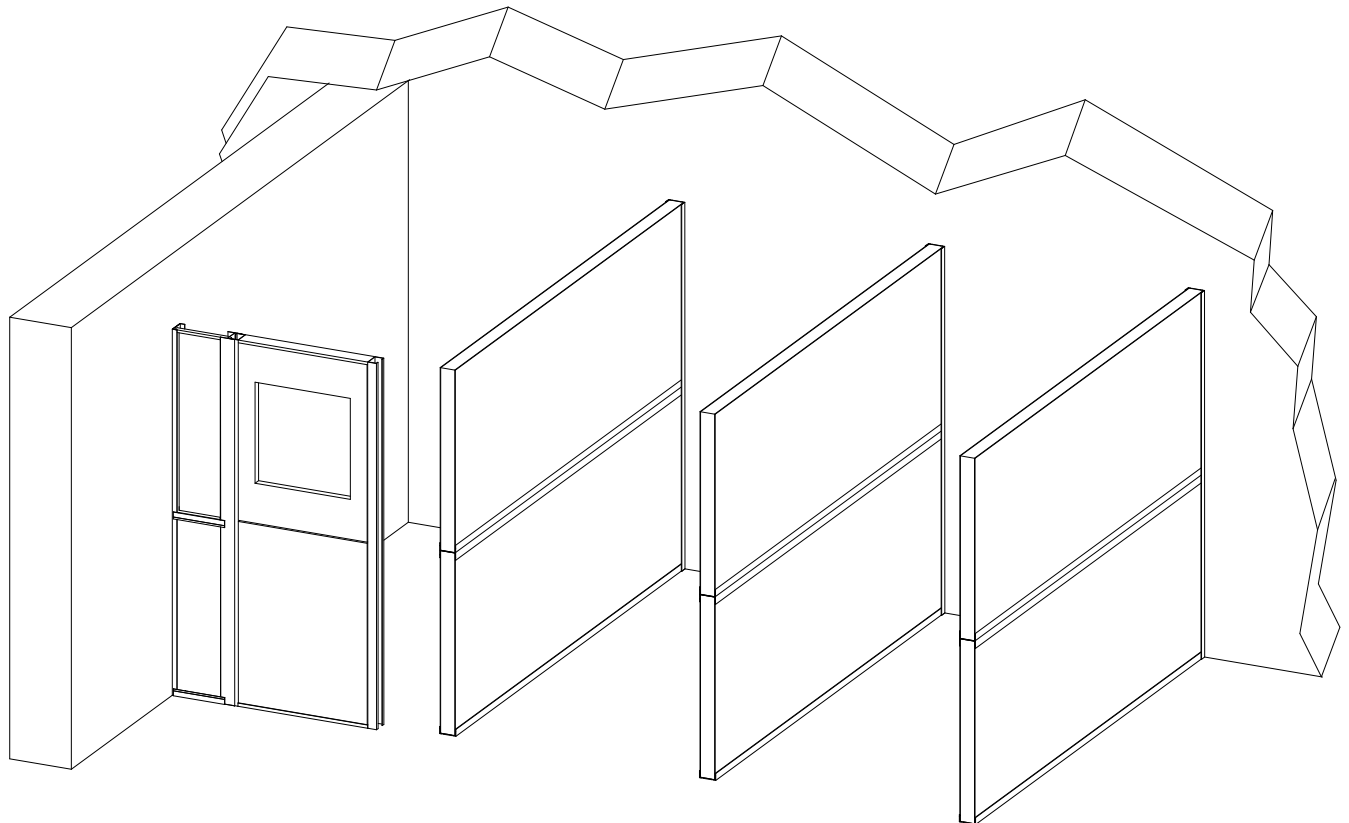

Figure 25
10. Place the first door unit into the “D” channel. The door is intended to open toward the aisle. Some layouts use both left and right handed doors. Consult your floor plans to make sure you have the correct door. See figure 25.